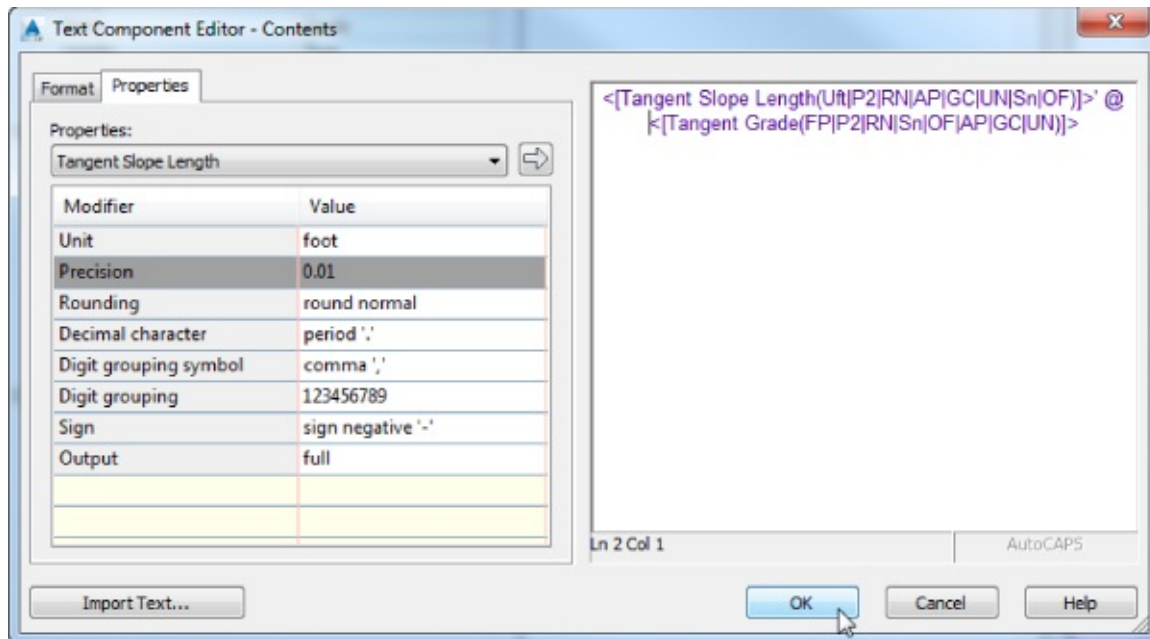

Figure 18.44 The Text Component Editor dialog with the values for the Tangent Slope Length entered
- Change the Properties drop-down to the Tangent Slope Length option and the Precision value to **0.01**, as shown in Figure 18.44.
- Put your cursor at the beginning of the existing text in the preview window, click the arrow, and then add a foot symbol (or **m** for meter), a space, an **@** symbol, and another space in the editor's preview pane so that it looks like Figure 18.44.